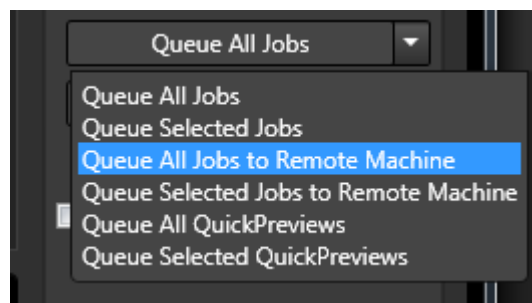

Figure 13. Sending a job to the cluster.
1. In Cambria FTC's encoding tab, create the job as normal. Then click the downward arrow on the Queue All Jobs button and choose either Queue All Jobs to Remote Machine or Queue Selected Jobs to Remote Machine (Figure 13).